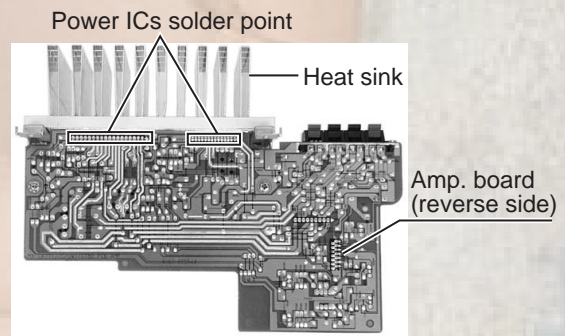

Fig.15
**■Removing the power ICs (See Fig.15 and 16)**